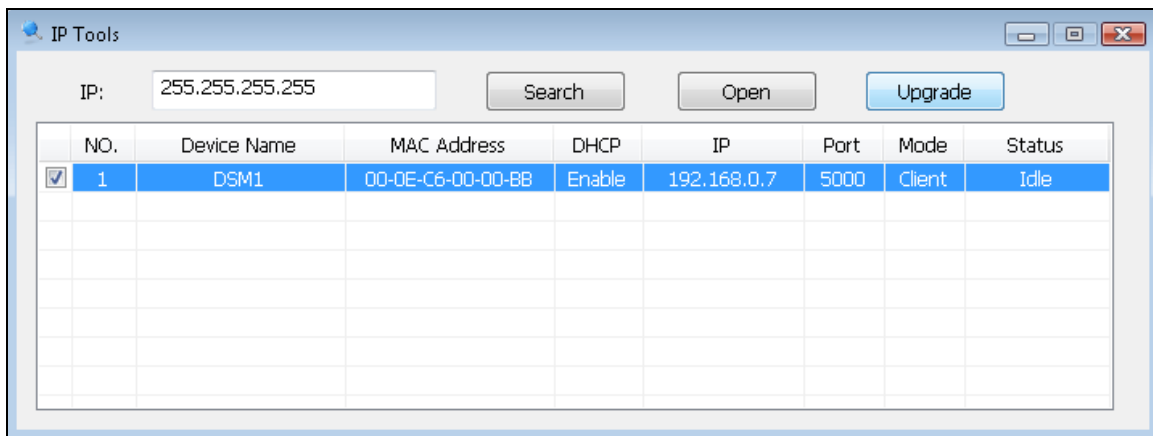

Figure 26
3. Launch the IP Tools application as referenced in Section 3.7, and locate the ObserverIP on your network. Reference Figure 26. Select the Upgrade button to begin the firmware upgrade. As shown in this figure, the IP address of the ObserverIP is 192.168.0.7. Make a note of your IP address (your results will vary).